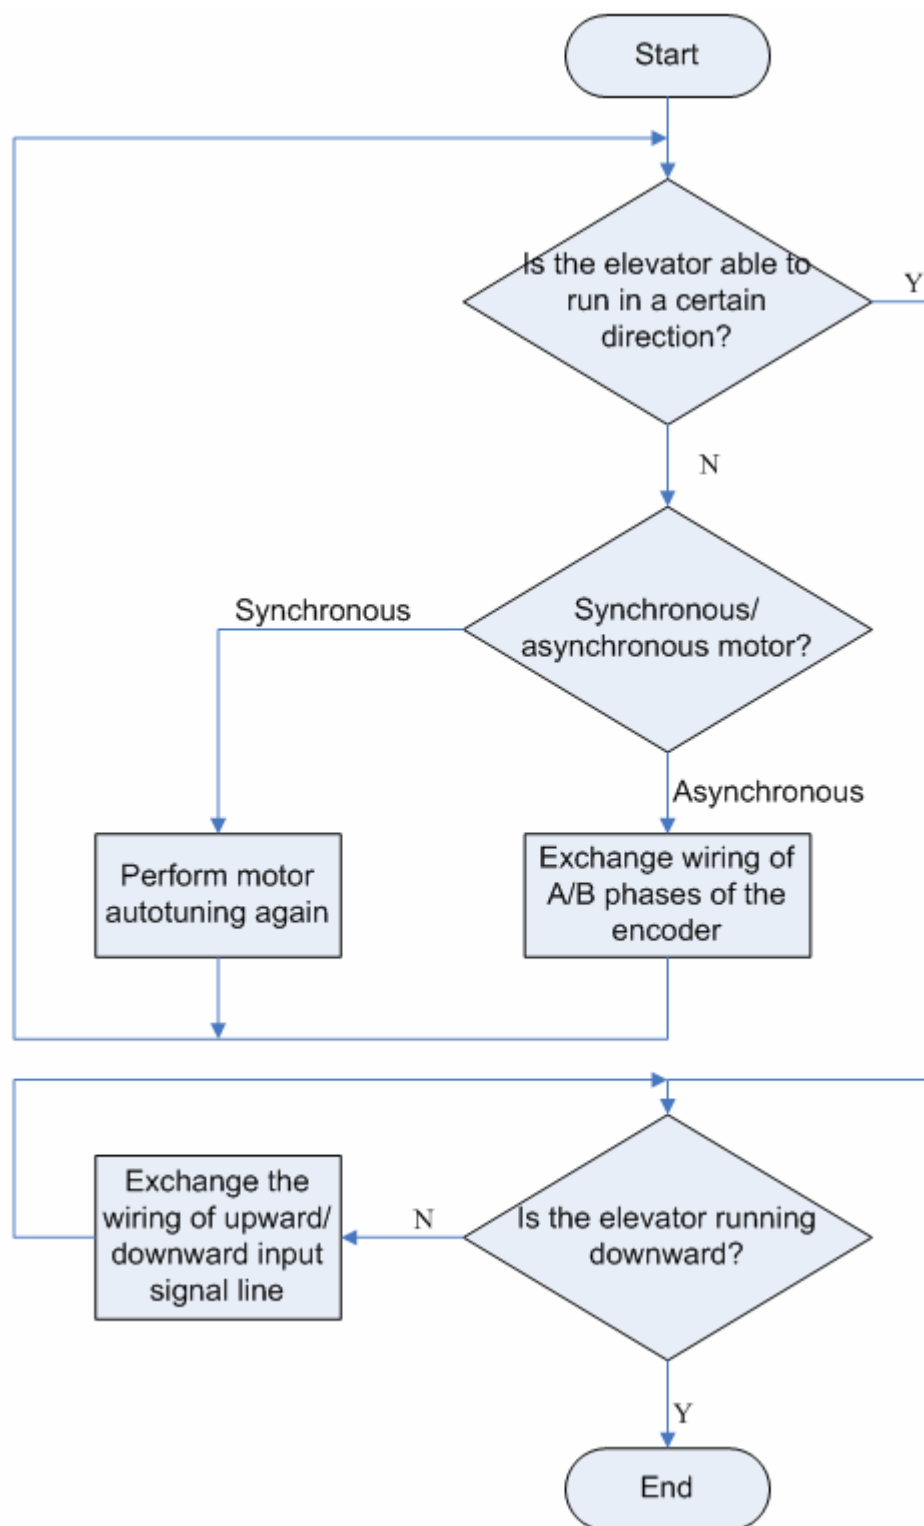

Figure 7.6 Downward running direction adjustment
(2) Let the elevator run downward in repair mode, adjust its running direction as shown in Figure 7.6: